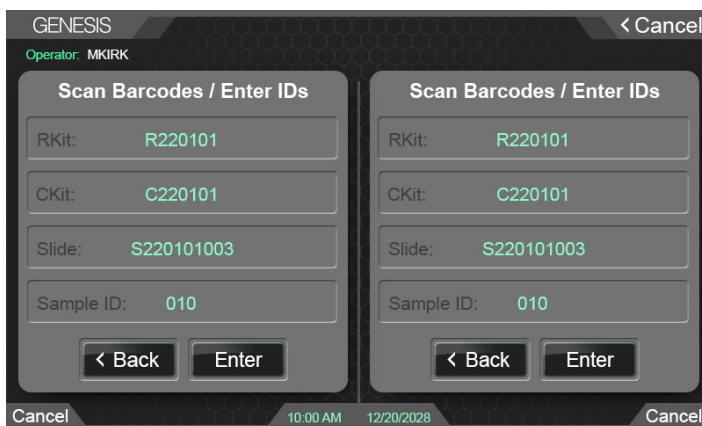

Fig. 20. Populate data for run.
- Populate the data entry fields recording the reagents, consumables, and slide identifiers using the barcode scanner (Figure 20).